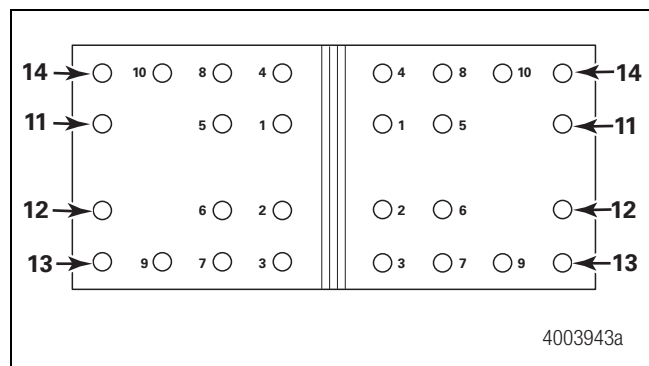

Figure 8.18
7. Install the rivets into the rivet holes following the sequence shown in Figure 8.18. For shoes with fewer rivet holes, start at the middle of the shoe and work toward the end. The rivets must be the correct body diameter, head size and shape, and length and material.
4. Using a torque wrench, tighten 1/4" fasteners to 80-100 lb-in (9.04-11.3 N•m), 3/8" fasteners to 18-23 lb-ft (24.4-31.19 N•m) or 10 mm to 22 lb-ft (30 N•m). Follow the tightening sequence shown in Figure 8.18 to correctly tighten the lining block fasteners.